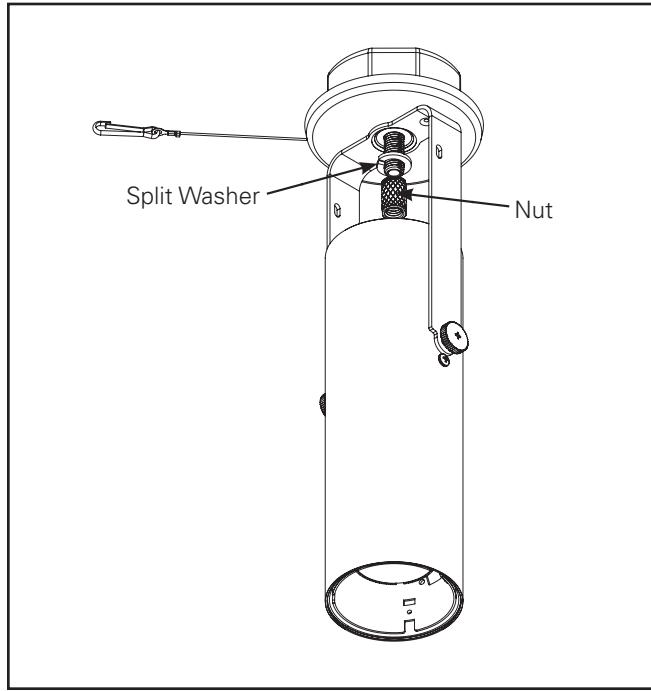

Figure 4
4. The Canopy should be connected to the cylinder when received. After wire connection are made, slide canopy and yoke arm flush to the ceiling, and secure with the nut and split washer provided. (Figure 4) Recommended to finger tighten first, then adjust to desired orientation then used Plier to tighten all the way.